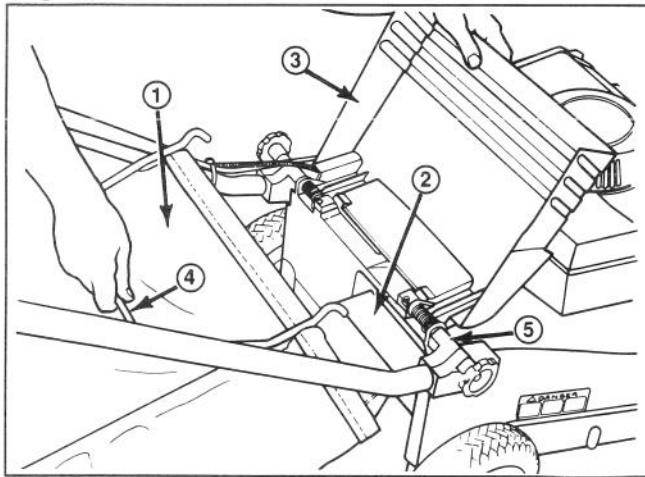

Figure 4
1. Raise discharge door, slide bag ramp attached to bag into discharge opening, and hook bag frame onto rounded portion of mounting brackets (Fig. 4).